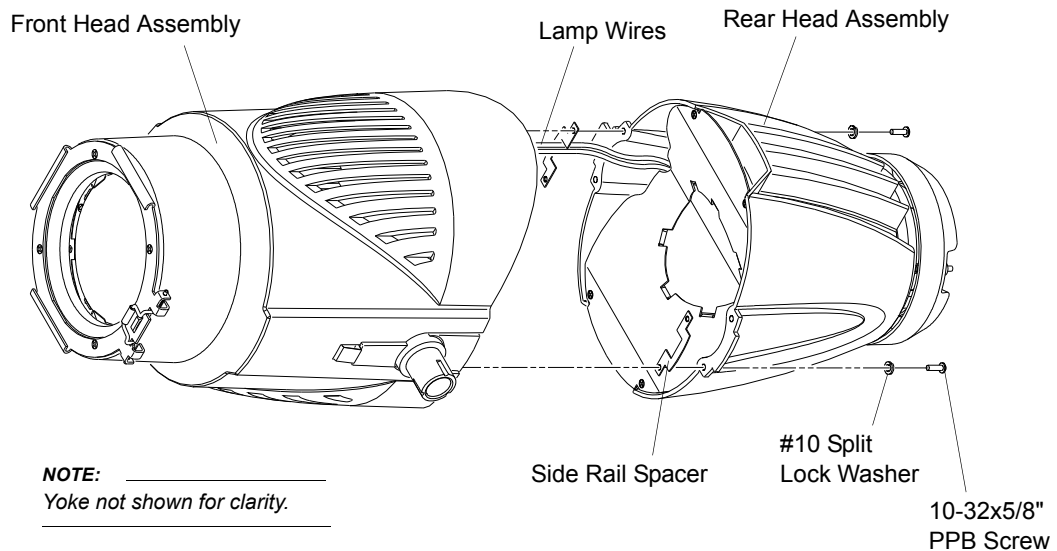

Figure 2-8: Rear Head Assembly Removal and Replacement
Step 2. At side rails, remove four 10-32x5/8" PPB screws and #10 split lock washers (**Figure 2-8**). (Side rail spacers will come loose also.)